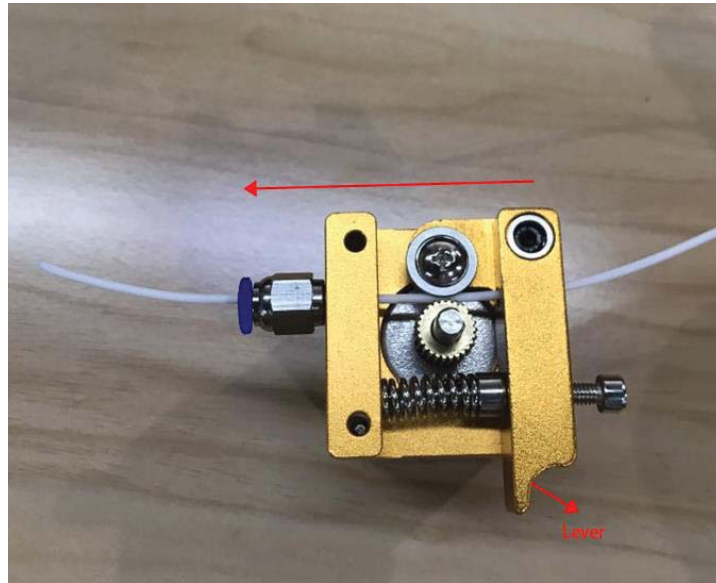

Figure 5.118 Push down the filament
- Step 1** Press down the lever on the extruder, and push down the filament to the bottom of the hole via the pulley, as shown in Figure 5.118.